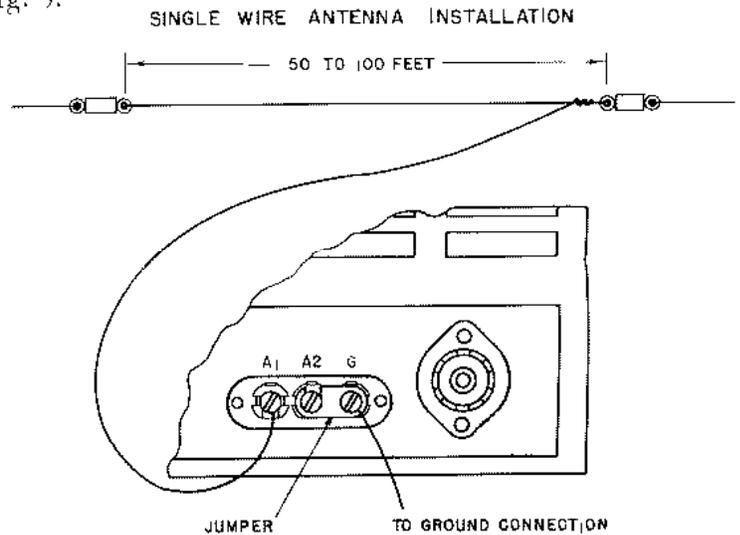

Figure 2. Single Wire Antenna Installation.
ELECTRICAL DESCRIPTION.—The block diagram, Figure 2, illustrates the function of the receiver circuits in a simple manner which is described as follows: radio signals are picked up at the antenna and fed to the antenna coil of the r-f stage where the desired station signal is selected by a resonant circuit and fed to the mixer-oscillator tube.
A. *Single Wire Antenna.*—When using a single wire antenna installation, connect a jumper between the antenna terminal A2 and G. Then connect a single wire of about 50 to 75 feet (including lead-in) to terminal A1. Use #14 gauge copper wire or heavier for best results. Erect the antenna as high and free from surrounding objects as possible. This type of antenna works well where the signal to noise ratio is relatively high and a more elaborate installation is not practical. Refer to Fig. 2.
(1) To determine the proper length of the doublet antenna in feet: